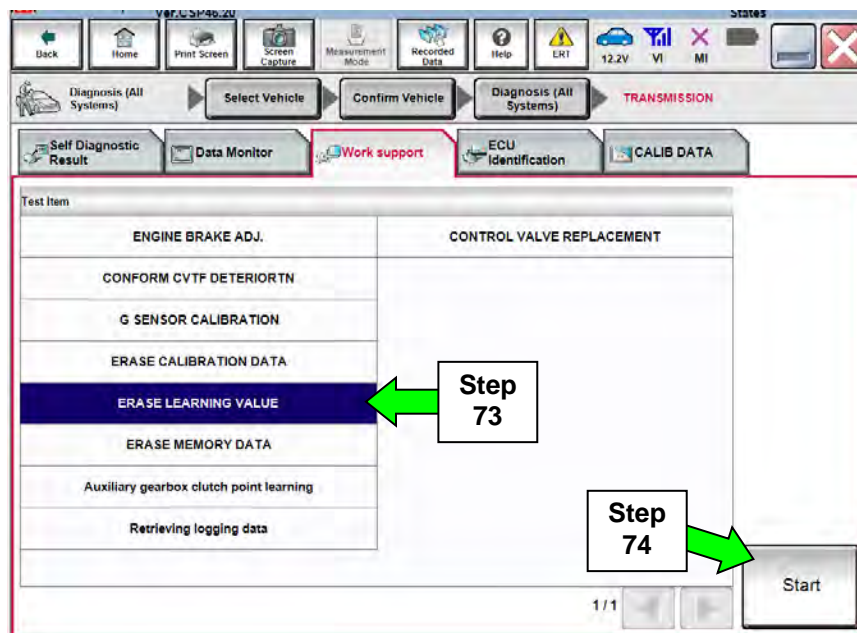

Figure 42
72. Navigate C-III plus to the screen shown in Figure 42.